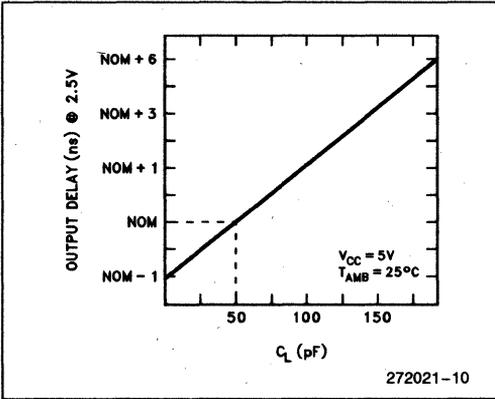

Figure 9. Typical Output Delay Variations Versus Load Capacitance
4. Specified for a 50 pF load, see Figure 9 for capacitive derating information.